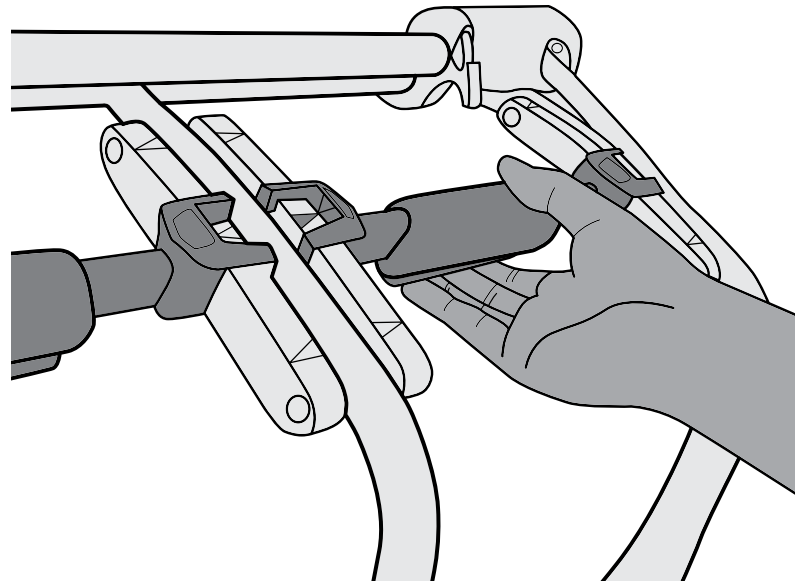

Figure 23
1. To adjust the independent recline, squeeze the yellow button on the bottom of the seat support, slide to the desired setting and release the yellow button (Figure 23).